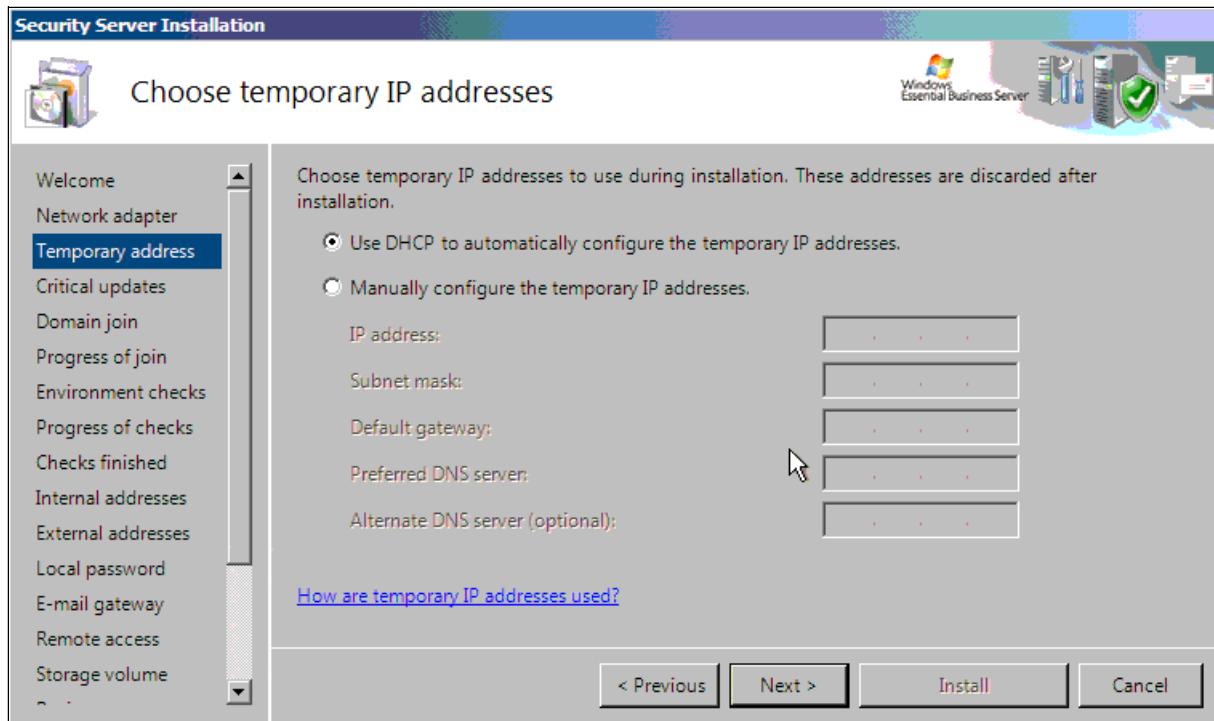

Figure 4-6 Choose temporary IP addresses
12. On the “Choose temporary IP addresses” panel (Figure 4-6 on page 93), choose either to use the DHCP Server service automatically to assign the Management Server an IP address that is used during installation, or type a valid IP address that provides an Internet connection through your network. Click **Next**.